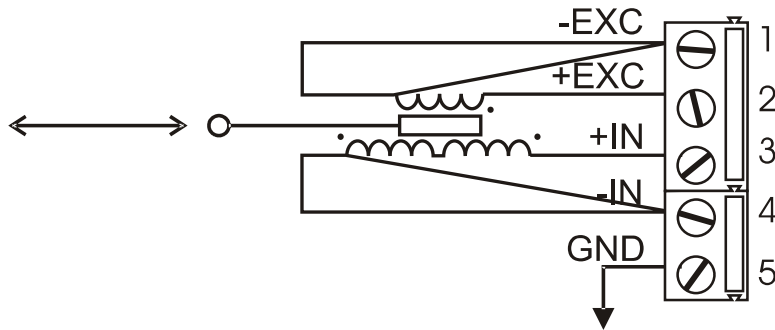

Figure 1-2: Terminal Schematic
- Figure 1-2: Terminal Schematic 8